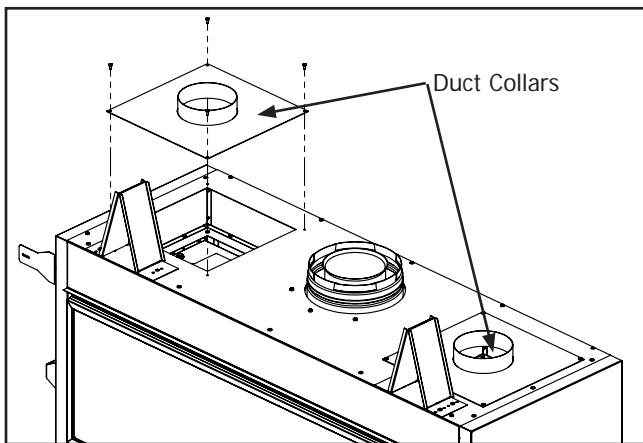

Figure 13. Duct Collars Installed
**Step 2:** Attach the supplied duct collars to the top of the cabinet as shown (Figure 13). Secure the collars by re-using the eight (8) screws saved in the previous step.